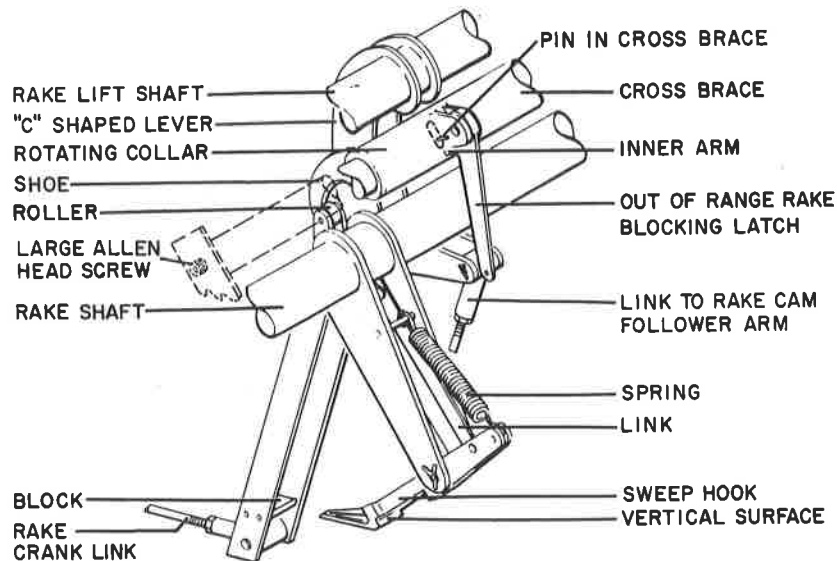

Figure 61. Rake Adjustments
5. RAKE OUT-OF-RANGE ADJUSTMENT. (FIGURES 61 and 63)